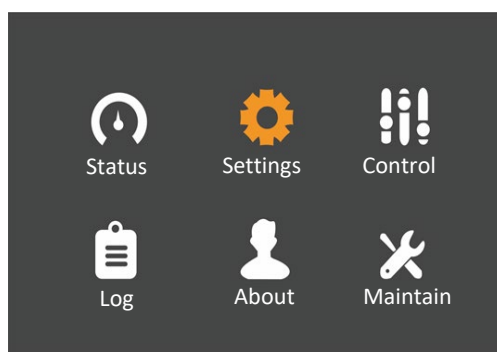

Figure 3-13 Main menu screen
1. At the main menu screen, press the or key to switch the cursor to select 'Settings', then press the key to confirm it. See Figure 3-13.